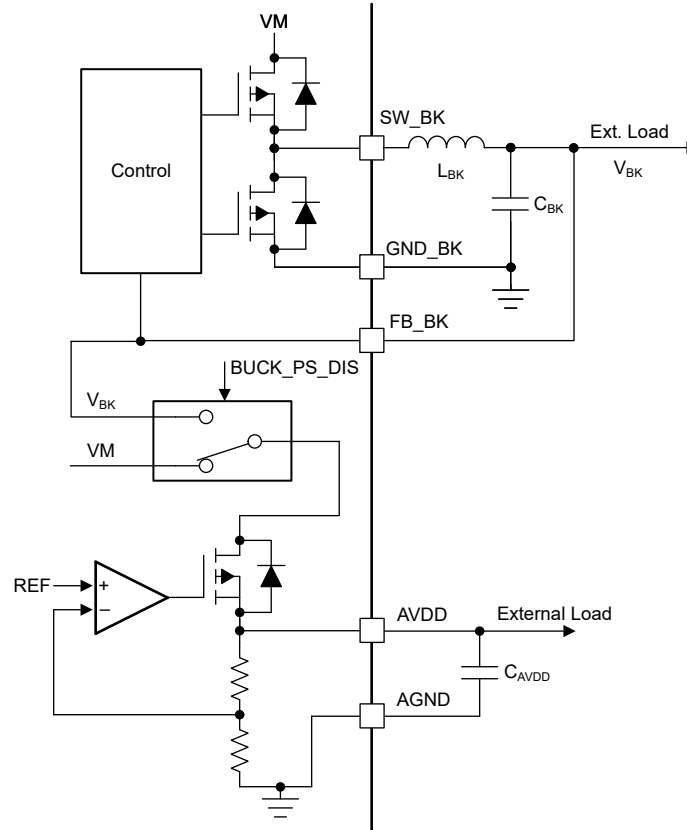

Figure 8-12. AVDD Power Sequencing on mixed mode Buck Regulator
The AVDD LDO has an option of using the power supply from mixed mode buck regulator to reduce power dissipation internally. The power sequencing mode allows on-the-fly changeover of LDO power supply from DC mains (VM) to buck output (VBK) as shown in Figure 8-12. This sequencing can be configured through the BUCK_PS_DIS bit. Power sequencing is supported only when buck output voltage is set to 5.0 V or 5.7 V.